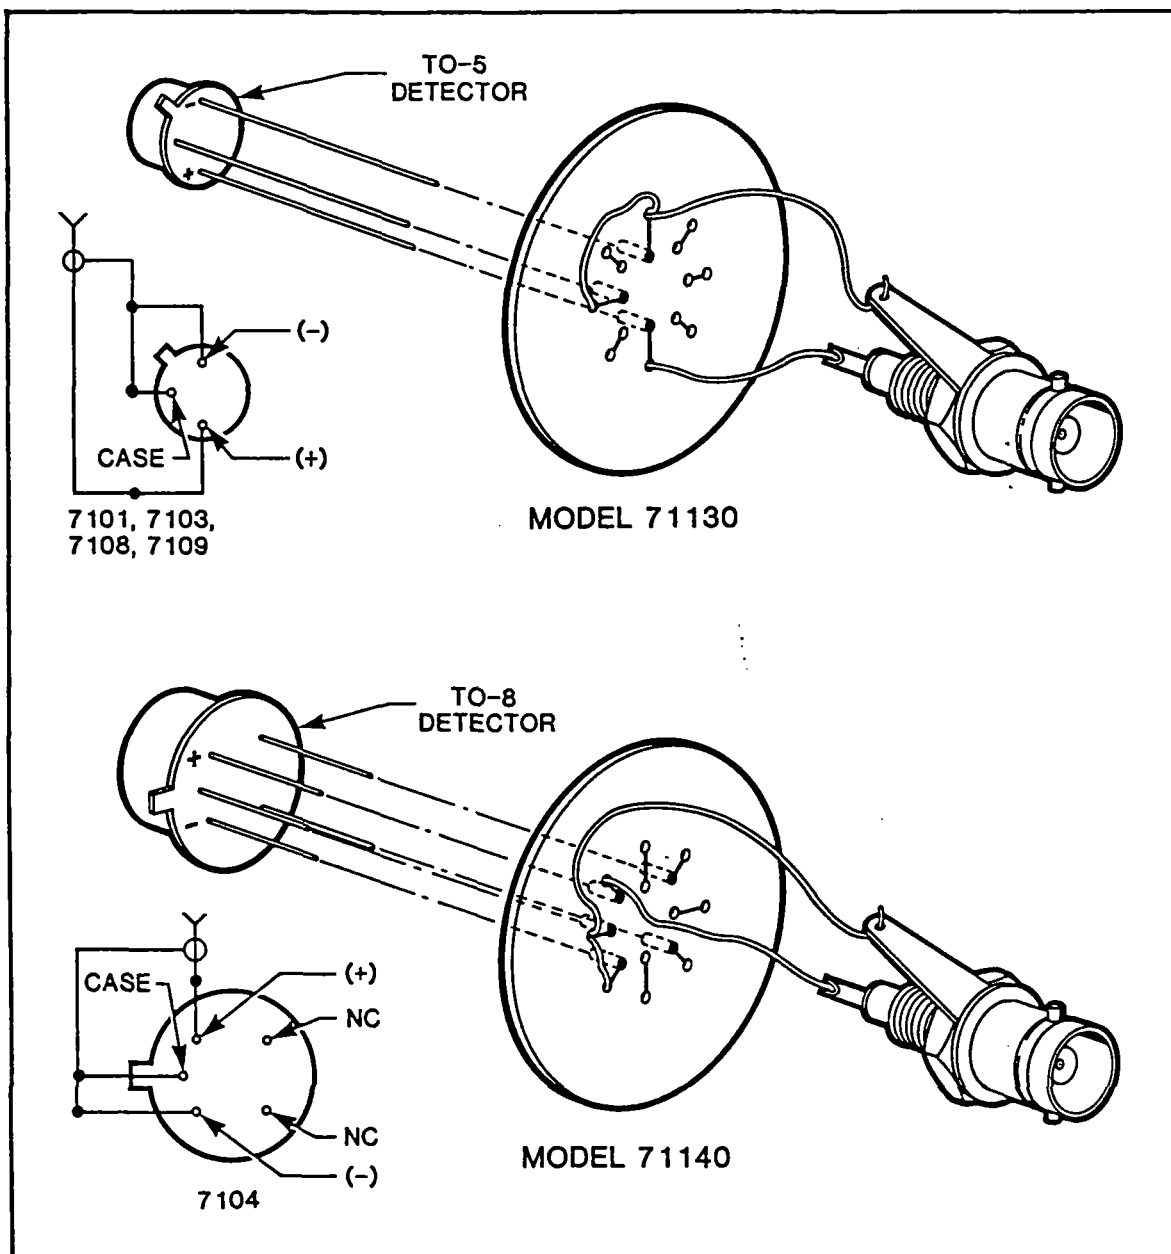

FIGURE 2 DETECTOR/HEAD PIN-SOCKET MATING
1. Remove the three screws (8) holding the rear plate in place and slide the socket board assembly out of the housing.
2. Remove the two long screws (9), on the rear plate, which hold the assembly together. (These pass through the pairs of spacers to the front plate.)
3. Plug the detector into the sockets as shown in Figure 2. (Use the diagram which applies to the model used.)
4. Place the front cover plate (3,10) over the detector and see if it contacts the front spacers (7). If not, note how far it is from the spacers. Remove the detector and cut this amount off each of the detector pins.
7. If applicable, place a 10mm diameter window in the opening of the front plate, ahead of the detector. Hold it in place with the retainer ring. (13).